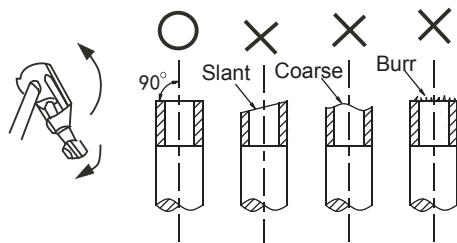

Fig.6-4
- 1) Use a pipe cutter to cut off the pipe (See Fig.6-4)